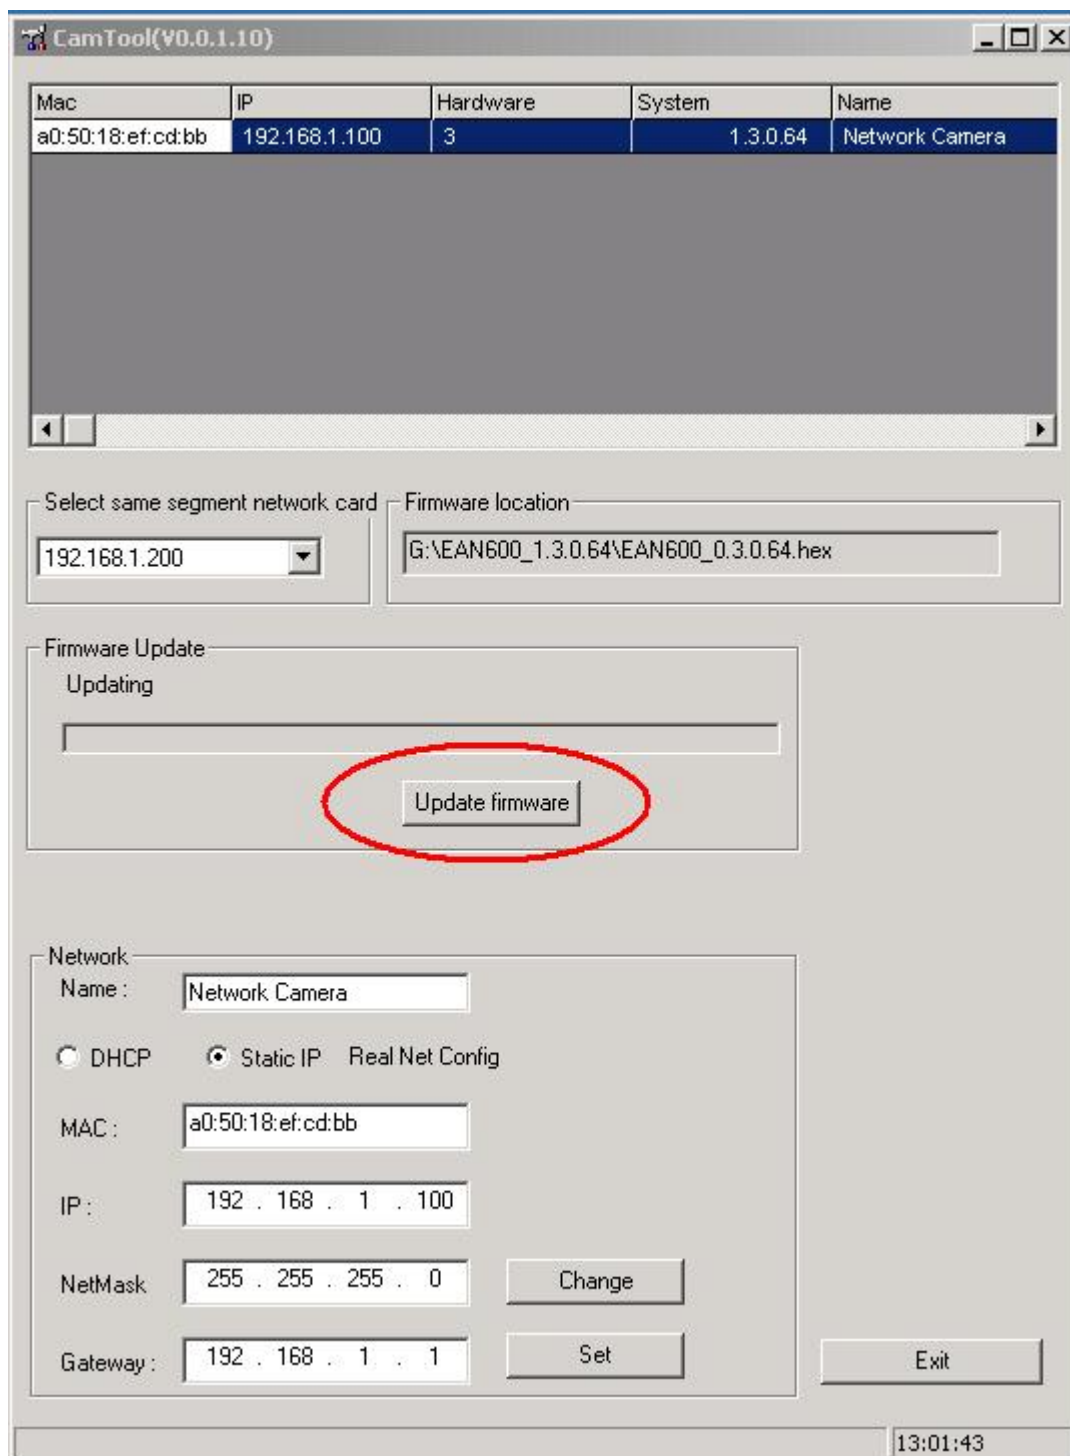

Figure 6
Click the “**Update firmware**” to upgrade.(Please see red mark of figure 6)
1. Starting to upgrade firmware. (Figure 6)